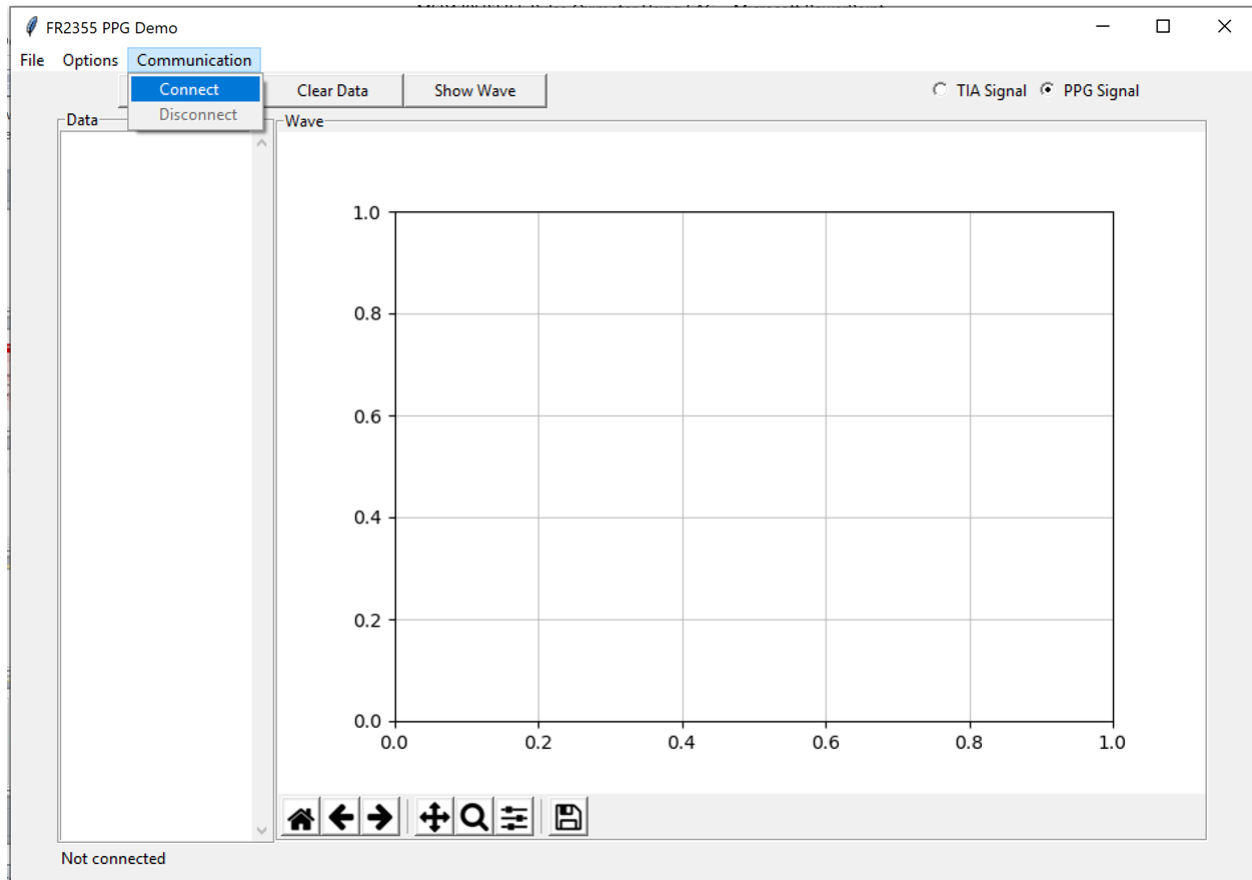

Figure 6-1. GUI for Pulse Oximeter
3. Open PPG_GUI.exe as Figure 6-1.